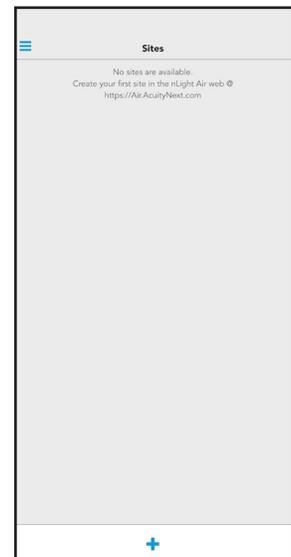

Figure 04: Sites Page - No Available
1. From the mobile app, navigate to the **Site** Screen (Figure 04) and click on the **+** at the bottom of the screen.